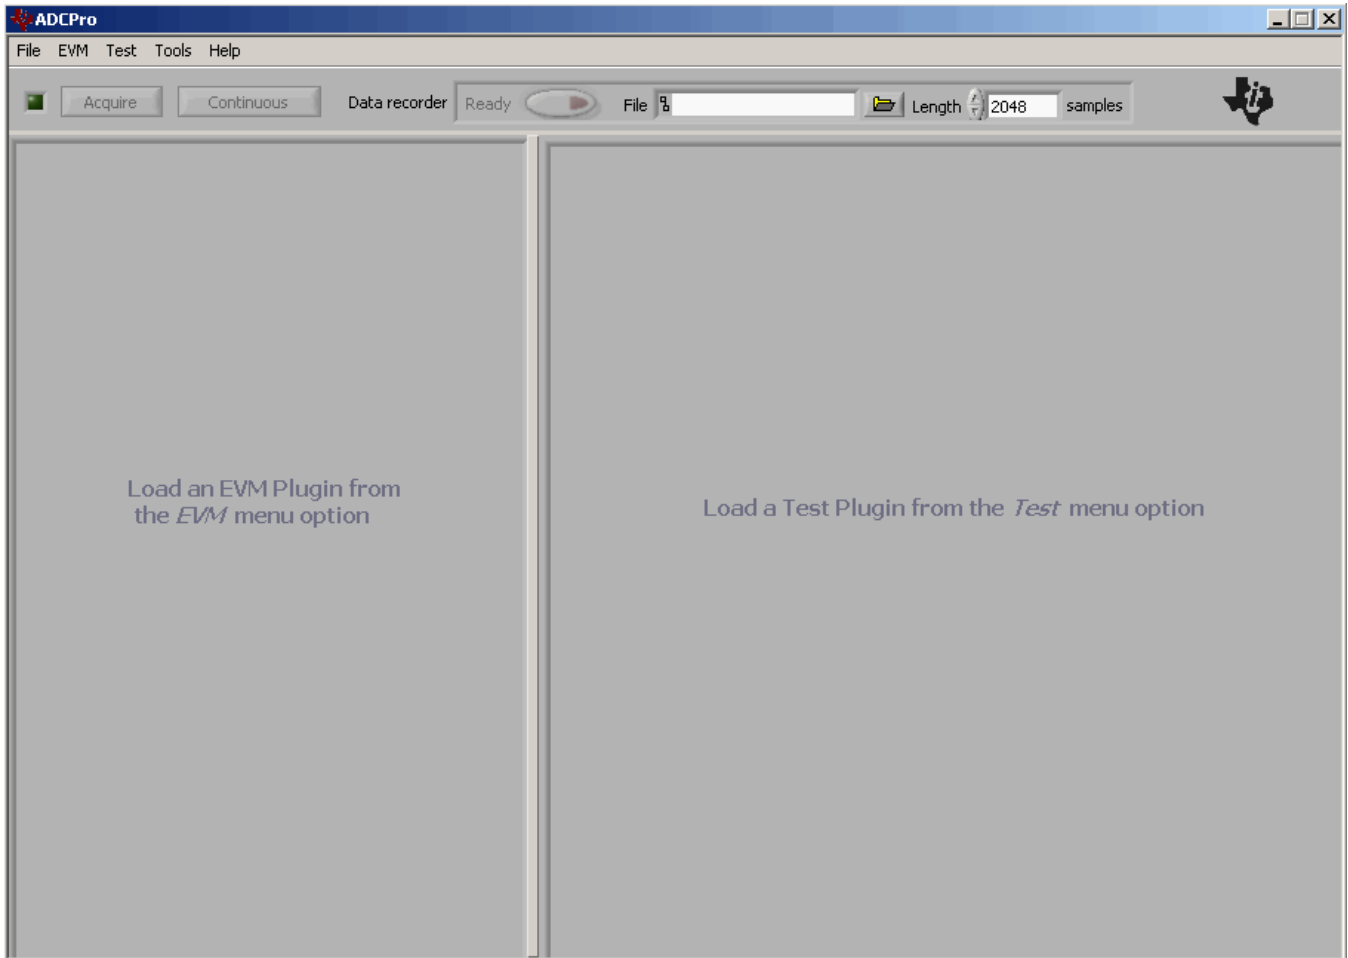

Figure 18. ADCPro Software Start-up Display Window
Step 1. Start the software by selecting *ADCPro* from the Windows Start menu. The screen in Figure 18 appears.